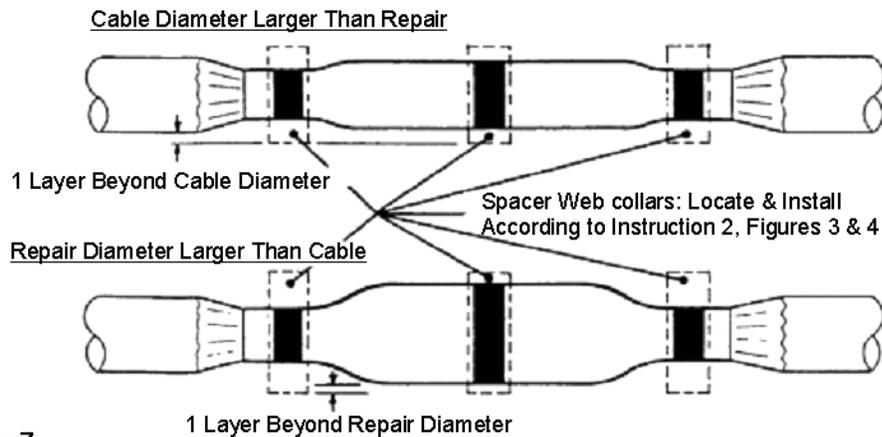

Figure 7
2. Wrap on 3M™ Cable Repair Spacer Web to form collar(s); build *EQUAL DIAMETERS* to 1 layer greater than repair or cable diameter, whichever is largest. (Figure 7) *Locate and install collars according to INSTRUCTION 2, FIGURES 3 & 4, PAGE 8*.